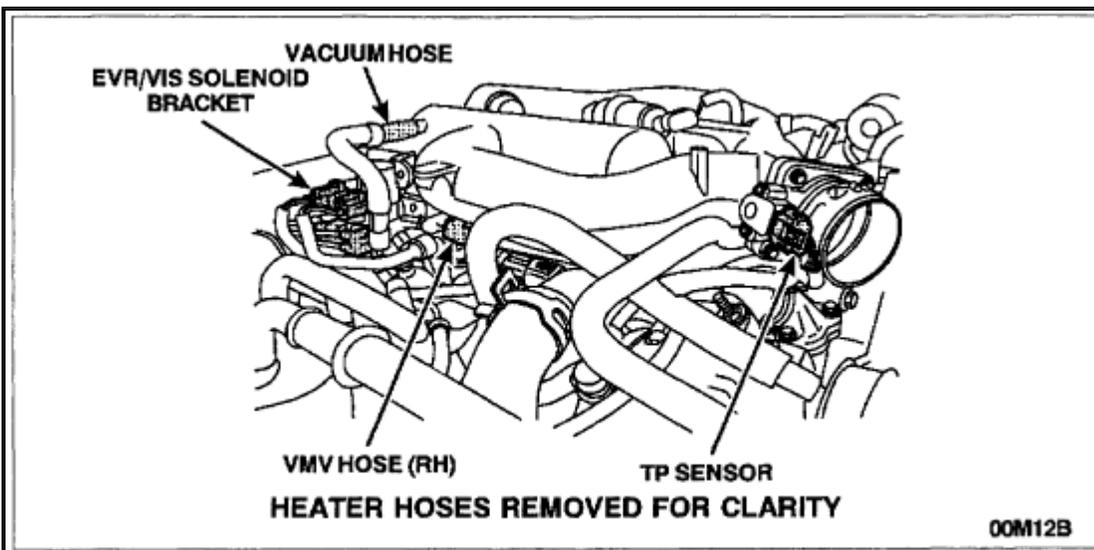

FIGURE 2
7. Remove the fasteners securing the EVR/VIS solenoid bracket. It is not necessary to disconnect the solenoids. Refer to Figure 2.